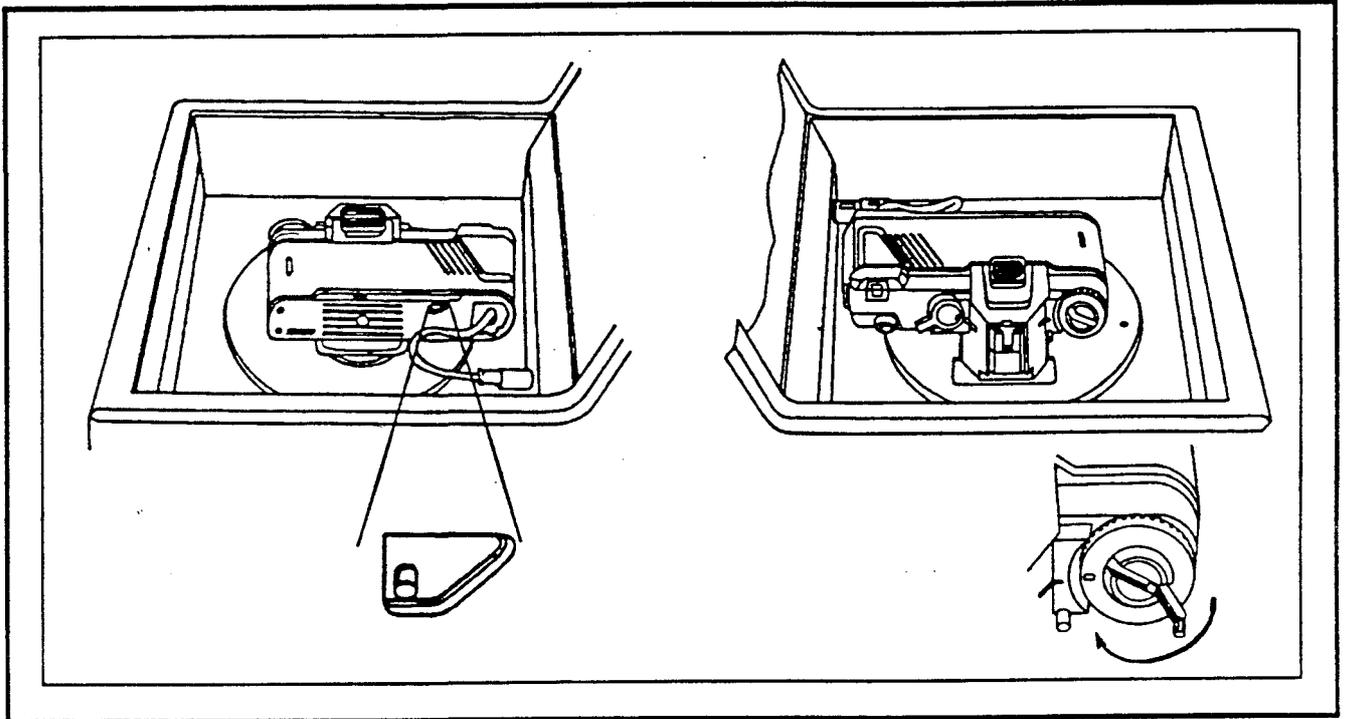

Figure 3-4. Unloading Film from the Pentax A3000 Camera
- Unfold the rewind crank and turn it in the direction of the arrow indicated in Figure 3-4 until the exposure counter returns to 'S'.